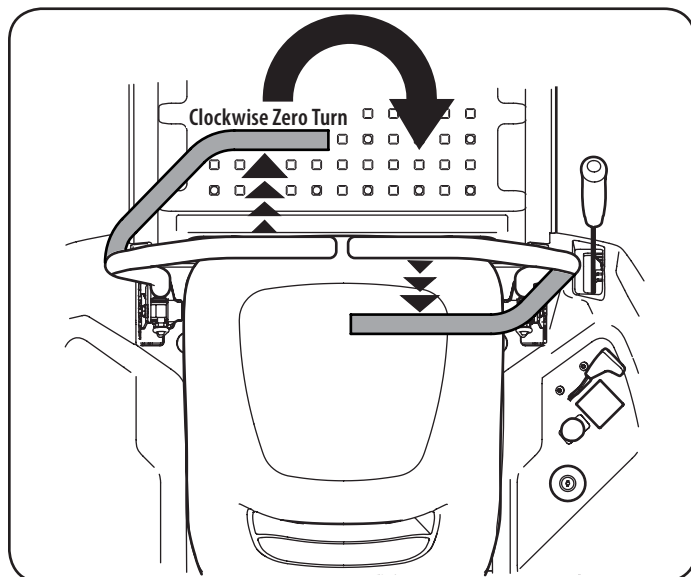

Figure 17
2. To turn clockwise, move the left control lever forward while simultaneously moving the right control lever rearward. See "Figure 17".